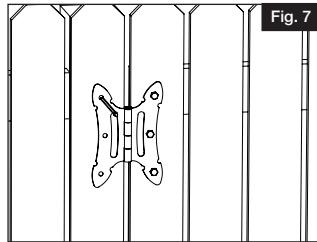

Fig. 7
- c. Mark screw locations on post (Fig. 7).